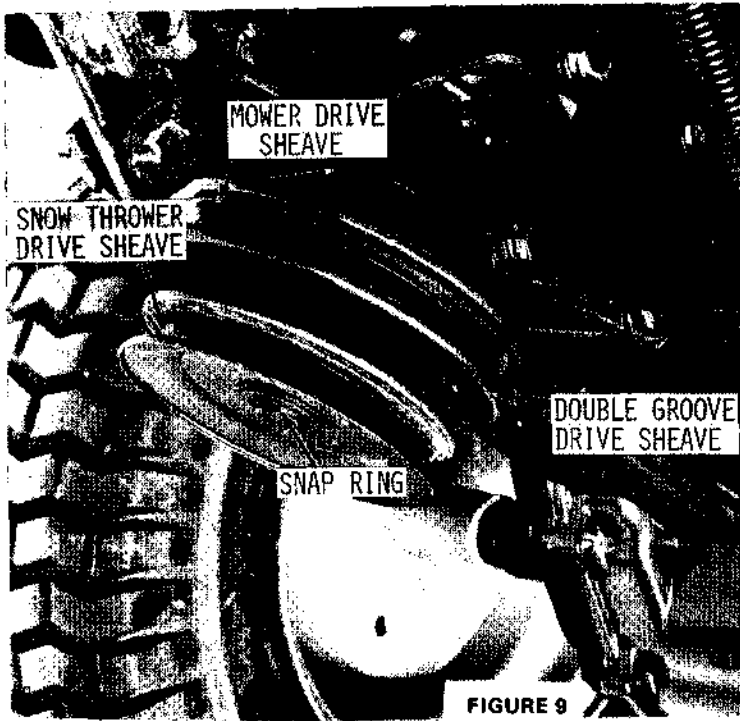
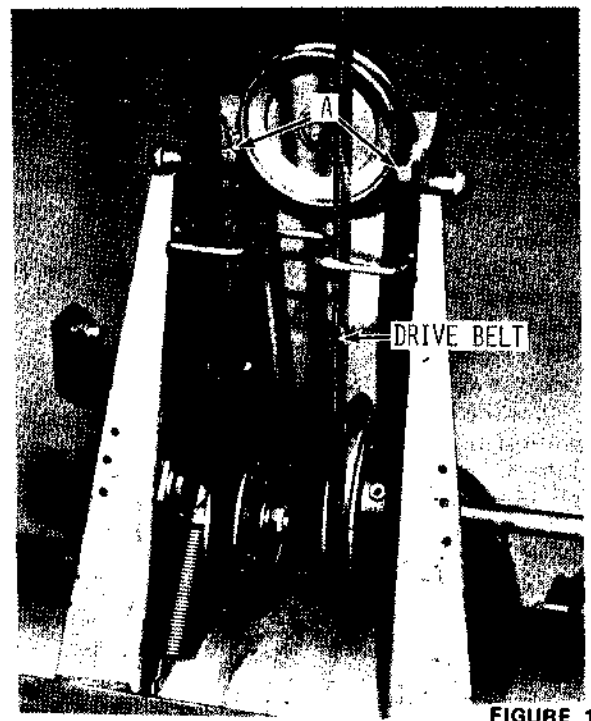

FIGURE 9
FIGURE 11
6. Remove the single groove mower drive sheave from under the tractor and replace with the double groove drive sheave as shown in Figure 9. Secure with the square key and snap ring installed on the original sheave.
8. Loosen belt guides A, Figure 11, and install the drive belt as shown. After installing the belt move belt guides to a position $1/8"$ from sheave edge and belt when belt is tight and secure the locking nuts.
5. Check belt to be sure it is still in position as shown in Figure 11. Install belt onto sno-thro sheave, Figure 9, on the tractor.